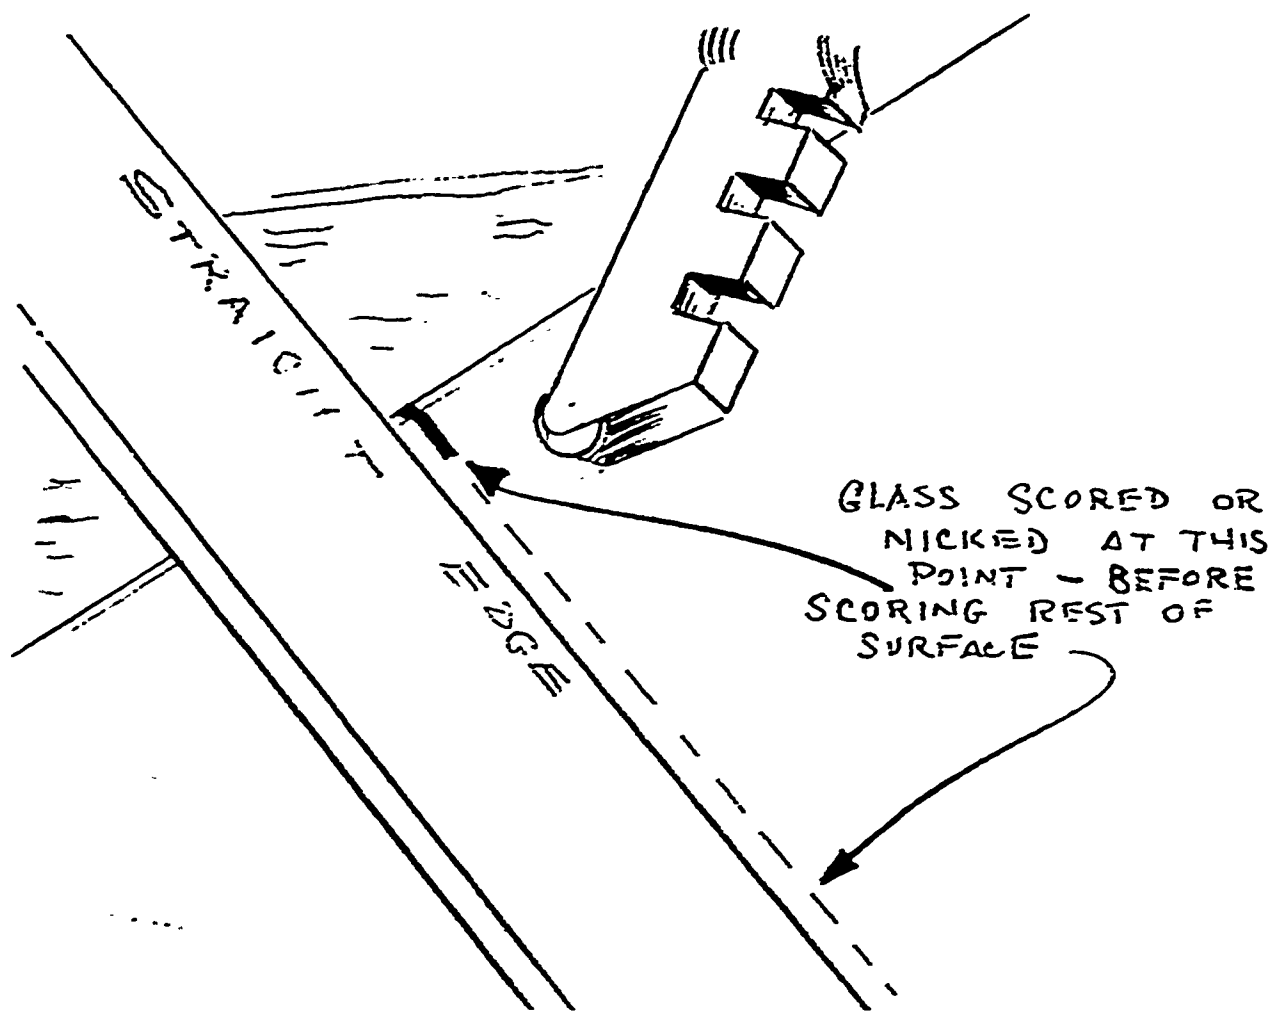

FIG. 244
7. Using a straight edge, firmly held against the glass, "SCORE" the upper edge about 1/4" with the glass cutter. See figure 244.